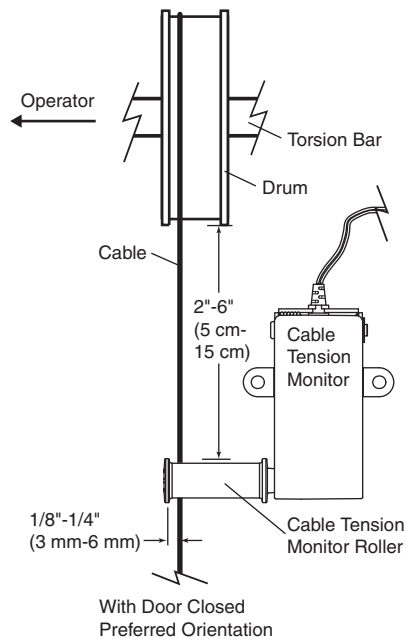

Figure 2
6. Plug connector into the motor unit (Figure 2).